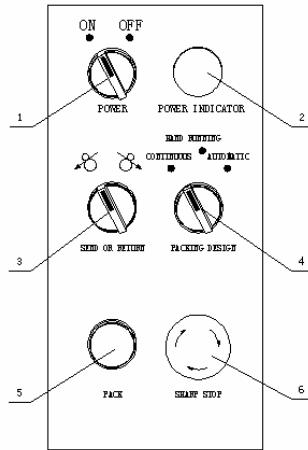

Fig4-1
4.1 Functions of control panel (see as Fig 4-1)
① Power switch
② Power light
- a. Put through air switch shown as Fig4-1 and power light is on.